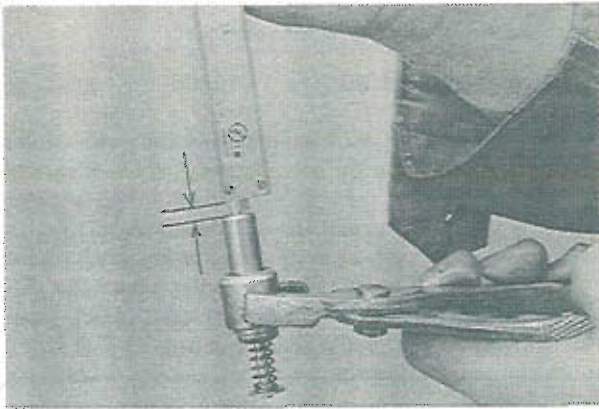

Fig. 2-15 Checking by-pass valve
2. Soak the by-pass valve in hot oil of 75°C \sim 80°C (167°F \sim 176°C). If the protrusion of piston is more than 5 mm (0.2 in), the by-pass valve is normal. (Fig. 2-15)